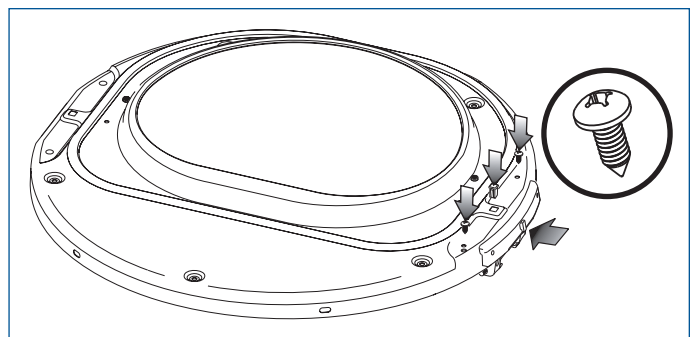

Figure 2-25.
6. Rotate the hinge and move it to the opposite side of the inner door. Attach it with the 2 pan head screws removed previously. Reinstall plastic plug in the square hole next to the hinge. (See Figure 2-25)